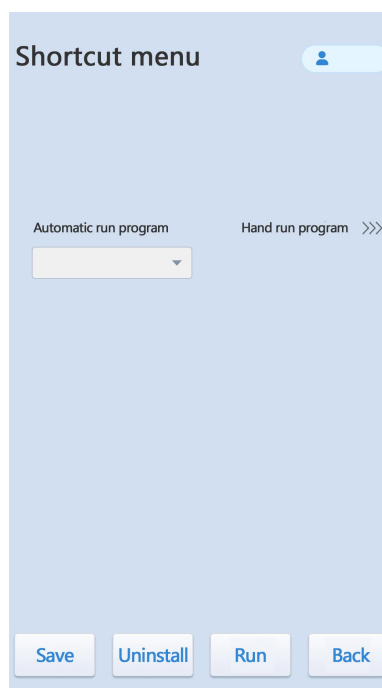

Fig 5 : Shortcut Interface
3. Quick Mode button -When monitoring the page, you can click the "Shortcut" button at anytime. After clicking, the system enters the shortcut interface as shown in Figure 5 In the shortcut interface, the user can configure the system as "Automatic Program Creation" and "Manual Program Selection", and take out the specimen loaded into the machine by operating the "Take Out Rack" function. The specific operation steps are as follows: